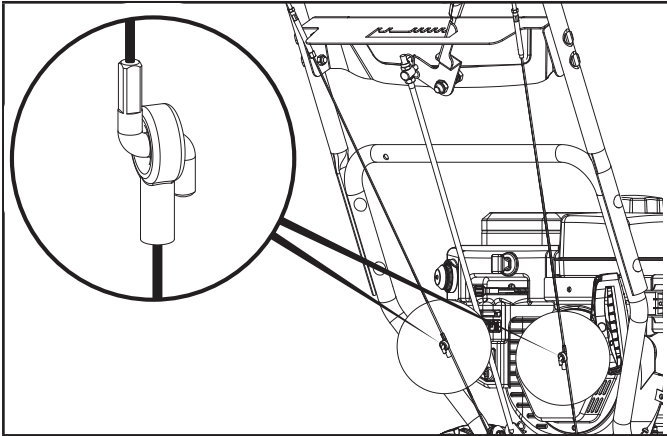

Figure 6
1. Fold the upper handle up, making sure the cables pull tight (Fig 6).